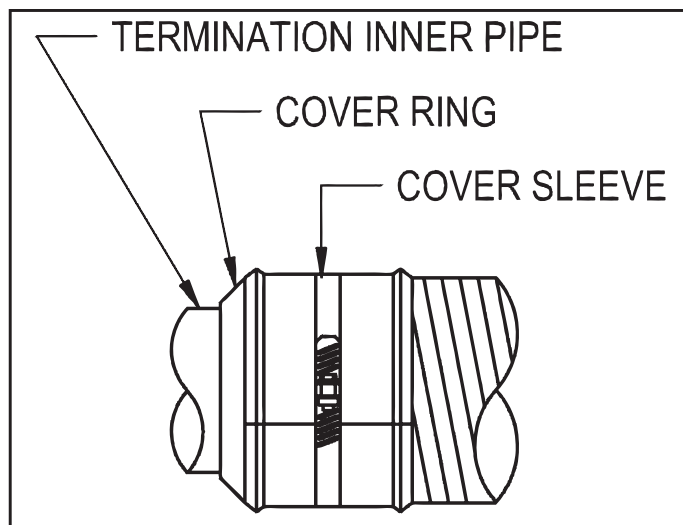

Figure 6
9. Slide the cover sleeve and cover ring together to engage the ring in the groove of the sleeve and tighten the cover sleeve clamp. (See Figure 6)
11. To maintain 1" clearance to combustibles, wrap minimum $1\frac{1}{2}$ " thick ceramic insulation (installer-supplied) around the exposed portion of the termination inner pipe (See Figure 6), and secure with foil tape (installer supplied).